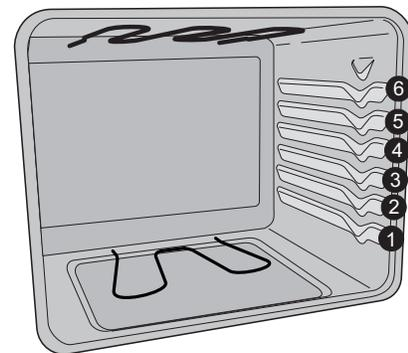
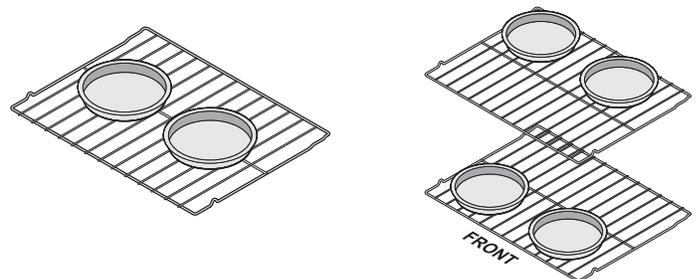

Figure 10: Rack positions
Figure 11: Baking layer cakes with one or two oven racks
- For best results when baking cakes using two oven racks, place racks in positions 2 and 4. (Figure 11) and place cookware as shown for two racks in Figure 10.